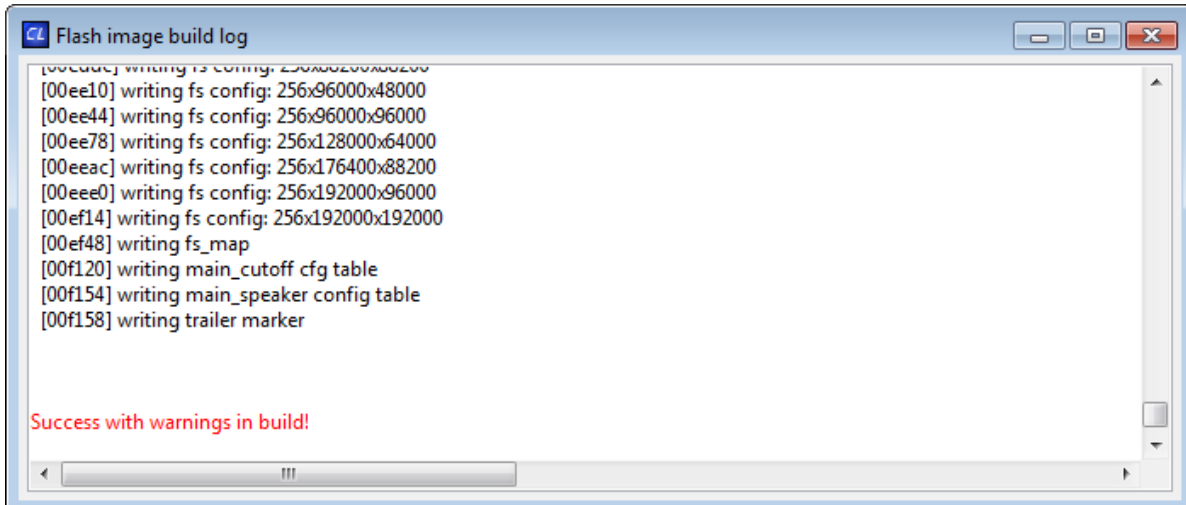

Figure 8-18. DSP Condenser Flash Image Build Log
8. The build log window will open as shown in Figure 8-18 displaying all the files (*.uld, *.cfg etc) listed in the project (underlying xml file) and also displaying the results of the build process, showing whether the image creation process was successful or not.. If there is a failure, scrolling through this log will give the error messages , The log will mention any missing uld or .cfg files.